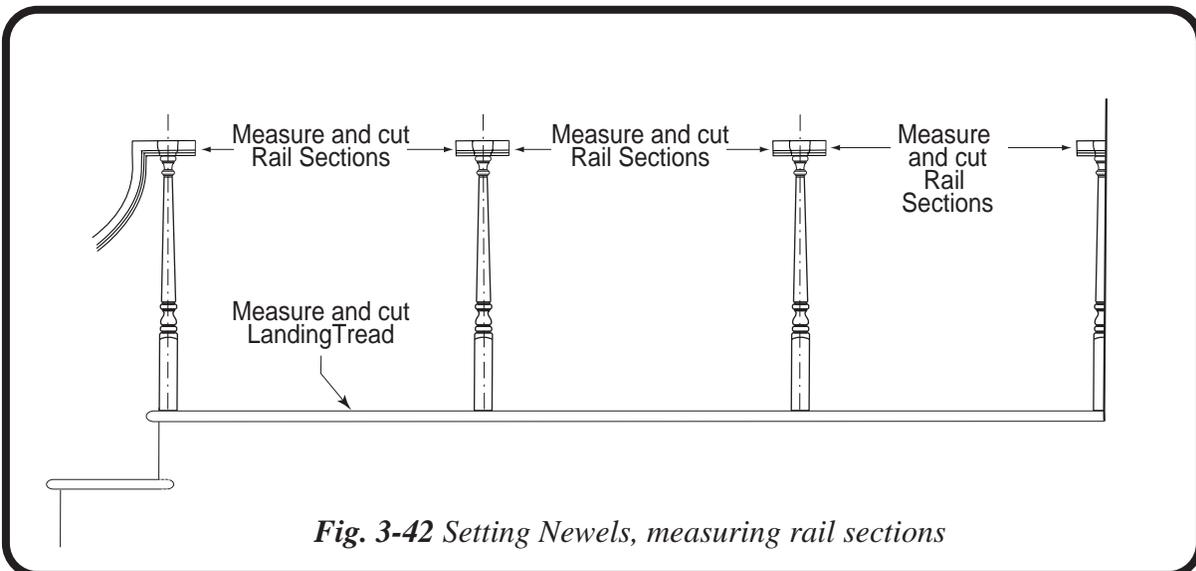

Fig. 3-42 Setting Newels, measuring rail sections
9. Measure the distance between adjacent fittings. Please note Fig. 3-42 here.